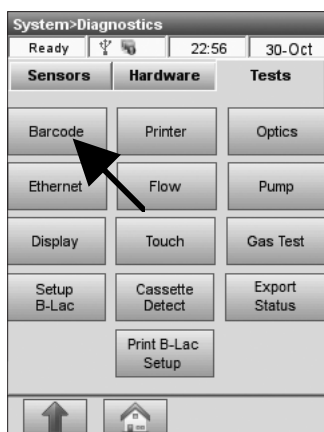

Fig. 8-12 Barcode Test
- Press **<Barcode>** to start the test (Fig. 8-12).